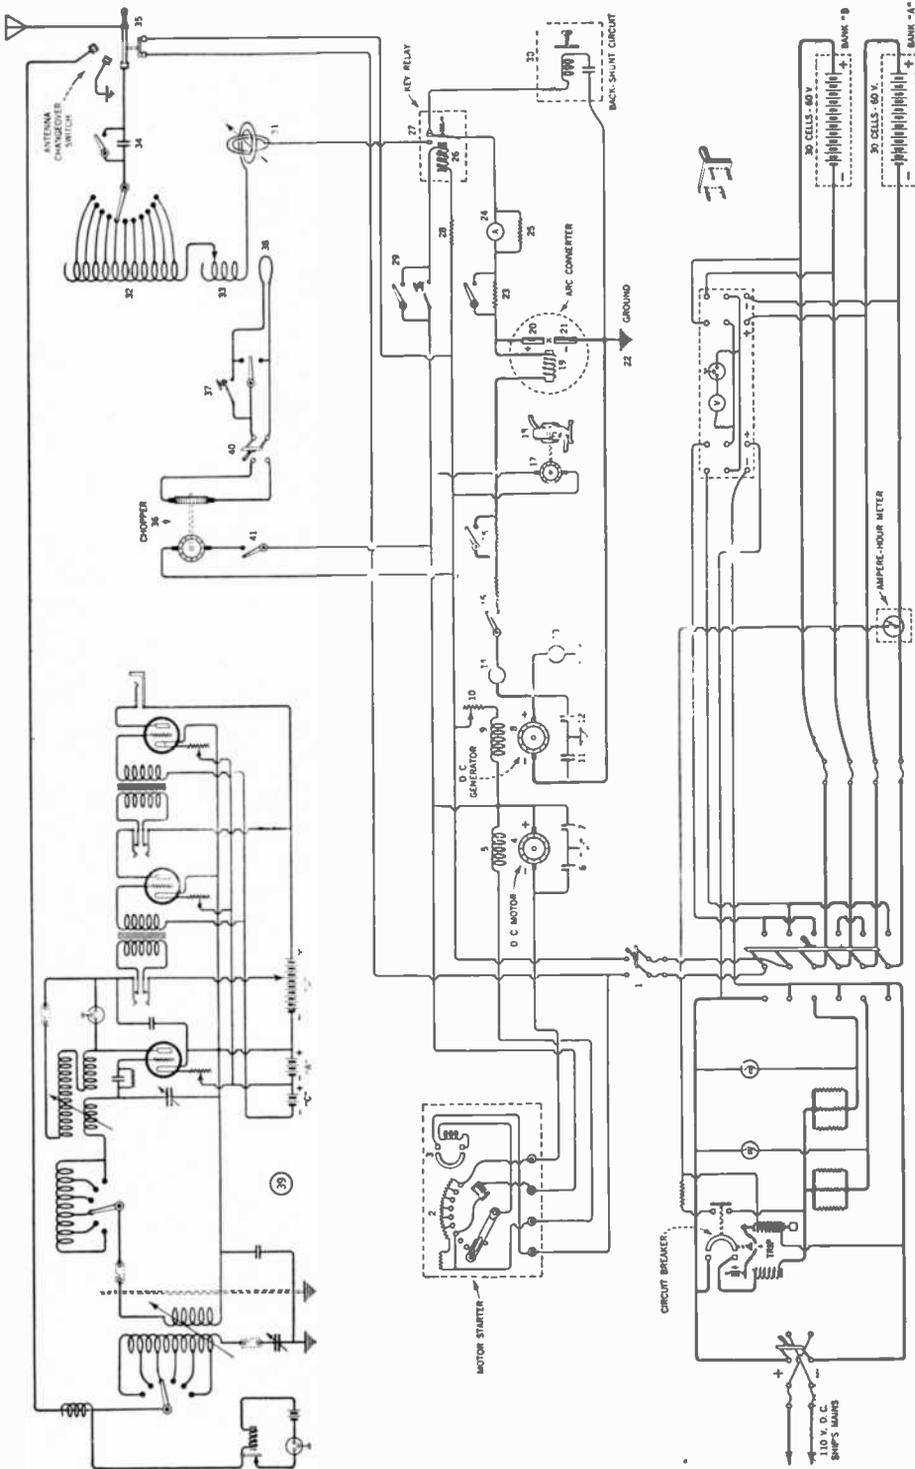

FIG. 4.—Diagram of a complete shipboard radio installation consisting of an arc transmitter, 1P-501 receiver, and auxiliary (battery) power supply
*Answer.* The complete schematic wiring diagram of the arc transmitter shown in Figure 4 is the 2-kw. Federal arc transmitter, models K and Q. The back-shunt method of signaling is employed in this transmitter. The apparatus for models K and Q are identical in every way except for the wavelengths employed.